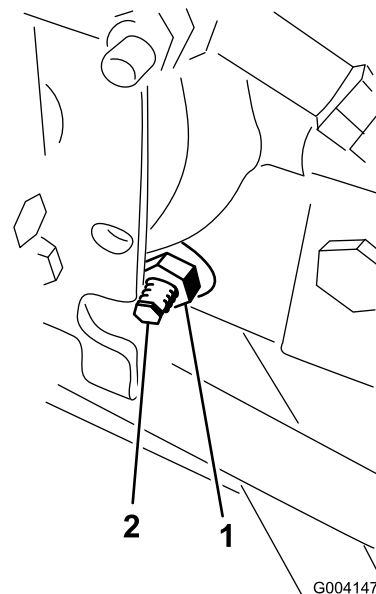

Figure 45
3. On the right side of the hydrostat, loosen the locknut on the traction-adjustment cam (Figure 45).